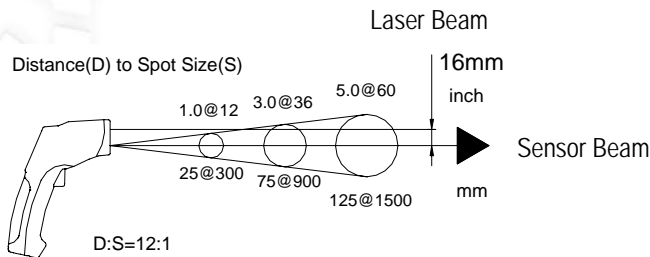

Fig: 1
As the distance (D) from the object increases, the spot size (S) of the area measured by the unit becomes larger. See: Fig. 1.